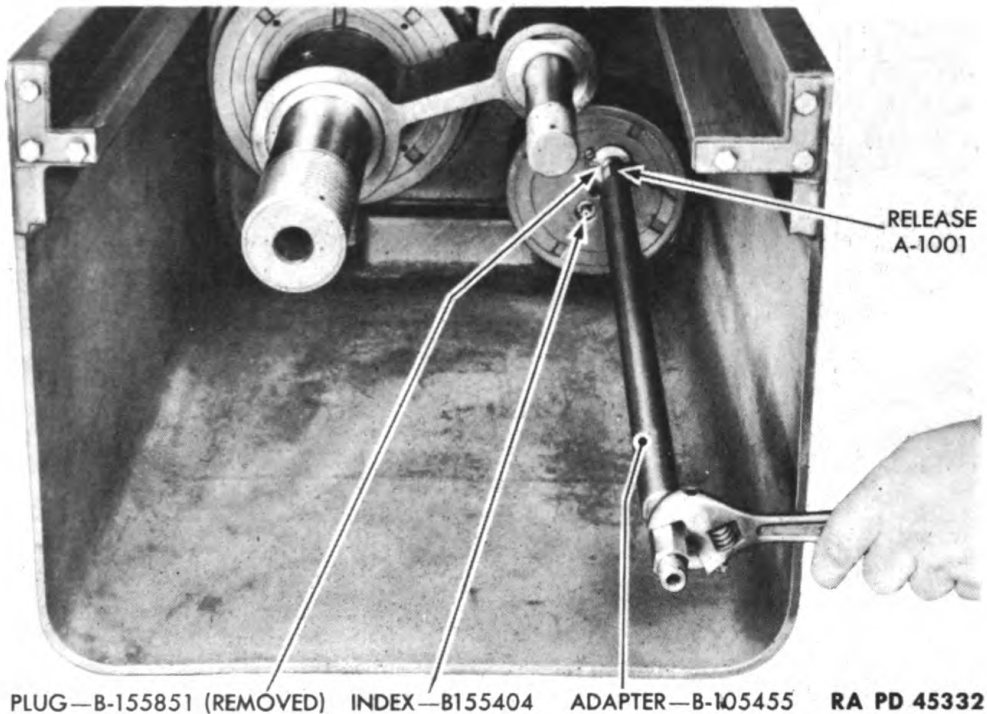

Figure 122—Installing Oil Release and Adapter in Recuperator Cylinder Rear Head
(1) Remove filling and drain plug B155851 from recuperator cylinder rear head (fig. 122). Screw oil release A1001 in adapter B105455; then screw oil release and adapter into filling and drain plug opening. Turn adapter and oil release to drain off the reserve oil into a suitable container. When oil index B155404 stops moving inward, reserve oil is drained off.